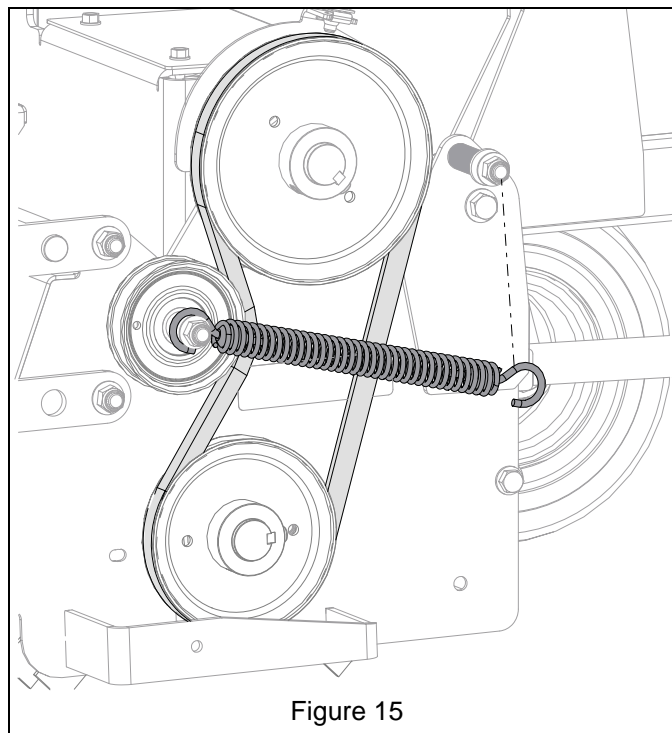

Figure 15
7. Connect idler spring to anchor. See Figure 15.